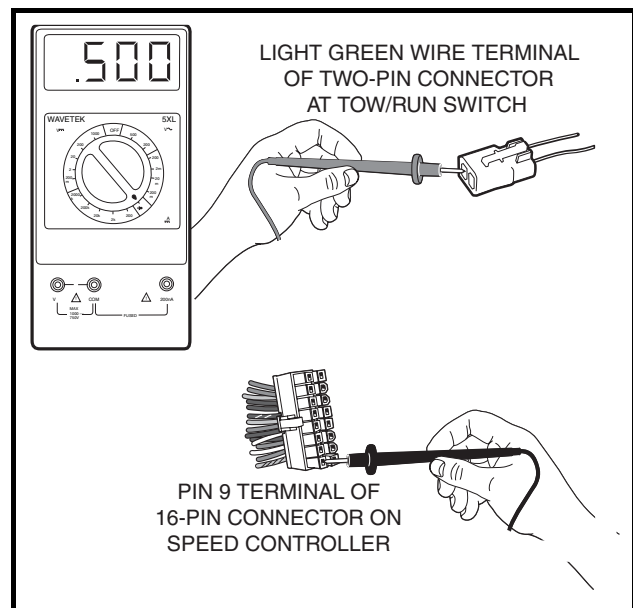

Figure 11-19 Diode Test – Probes Reversed
5. Reverse the multimeter probes and note the reading. With the black (-) probe of the multimeter on the pin 9 terminal of the multi-pin connector and the red (+) probe of the multimeter on the light green wire at the Tow/Run switch, the meter should read approximately 500 mV, however, a range of 400-600 mV is acceptable (Figure 11-19, Page 11-33).